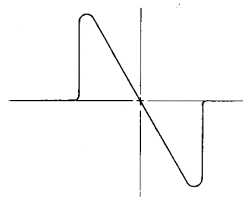

Figure 3-1B. FM S-Curve Waveform
4. Shift the oscilloscope vertical cable from TP2 to TP3. Adjust IFT4 to obtain an S-curve waveform as shown in Figure 3-1B, with good upper/lower symmetry by adjusting the black core. For good linearity in the middle portion of the waveform adjust the blue core of IFT4.